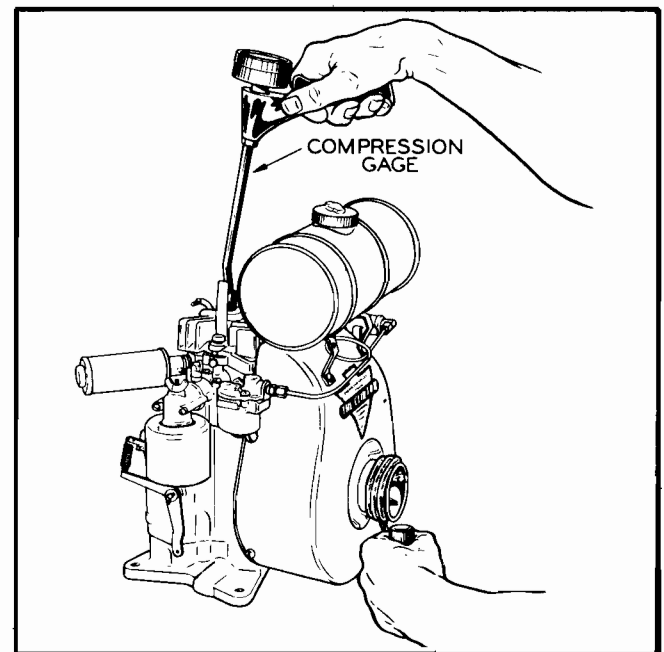

Figure No. 32—Testing Compression
2. Insert the rubber-tipped end of the compression gauge in the spark plug hole snugly. (See Figure No. 32.)